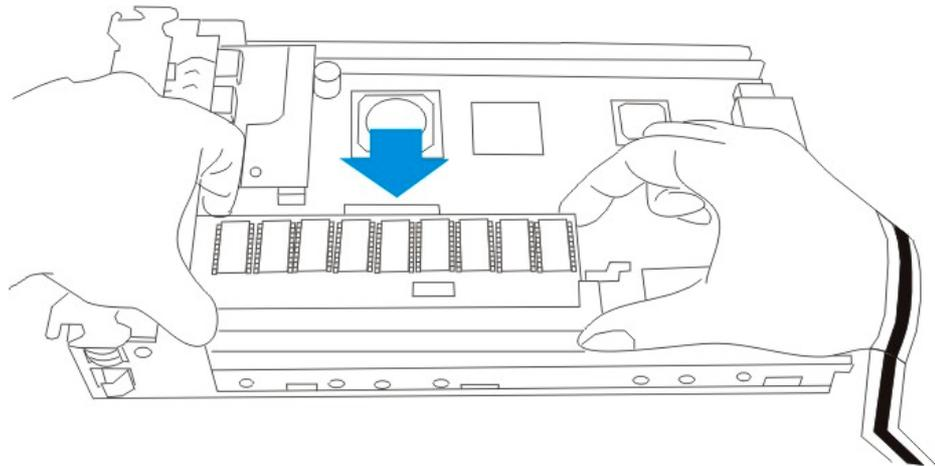

Figure 2-5: Insert the DIMM Module
Step 5. Insert the DIMM module into the DIMM socket. Once the DIMM module has been correctly aligned with the DIMM socket, gently push the DIMM module into the socket. The white clips on the sides of the socket will close automatically and secure the DIMM module into the socket. (See *Figure 2-5*).